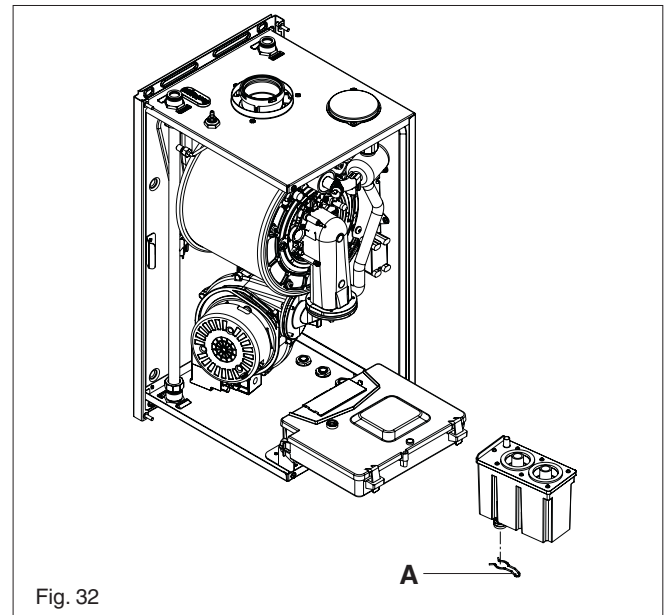

Fig. 32
6.14 CONDENSE TRAP REMOVAL (fig. 32)